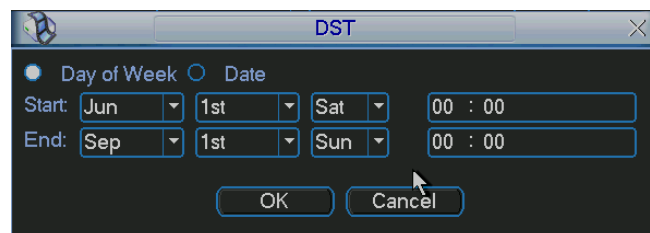
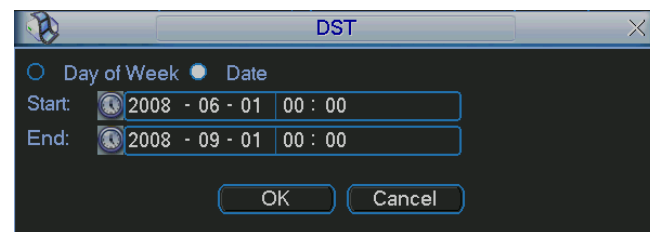

Figure 5-4
Figure 5-5
- DST: Here you can set DST time and date. Enable DST function and then click set button. You will see an interface shown in Figure 5-4.
Here you can set start time and end time by setting corresponding week setup. In Figure 5-4, enable date button, you can see the interface shown in Figure 5-5. Here you can set start time and end time by setting corresponding date setup.